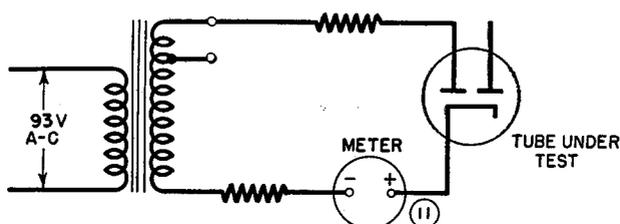

Figure 5. Tube Tester I-177, simplified rectifier test circuit.
**17. RECTIFIER TEST (fig. 5).** This circuit is used for making emission tests of standard full-wave rectifiers, diodes and OZ4 tubes. An a-c voltage of definite value is applied between a cathode and plate of the tube under test, through resistors and the meter. The total resistance and the voltage are set automatically to the correct values for a GOOD-REPLACE meter reading when selector switches A and B are set at the positions specified on the test data card for the tube being tested. As an example, one plate of a four-prong full-wave rectifier is connected into the circuit when selector A is set at position 1. The second plate is connected into the circuit when selector A is set at 3. The special pushbutton for OZ4 rectifier tubes provides a higher plate-cathode voltage than is used for heater or filament-type rectifiers, with a resistor in the circuit to limit the current if the tube elements are shorted. The special pushbutton for diodes provides a lower voltage than for regular tubes. It also provides a protective series resistance.